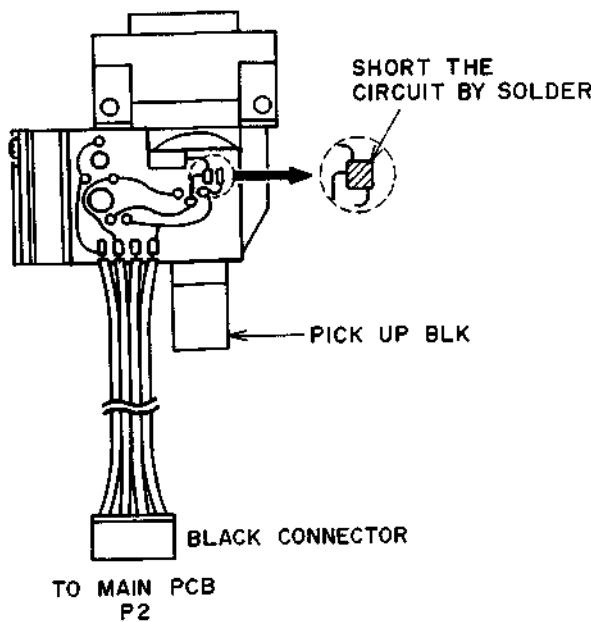

Fig. 5-1
- 3) When connecting or disconnecting the Black connector (P2), make sure that the P.C. board is shorted circuit as shown in Fig. 5-1.
- 3) Short the pick-up P.C. board with solder. (Refer to Fig. 5-1)